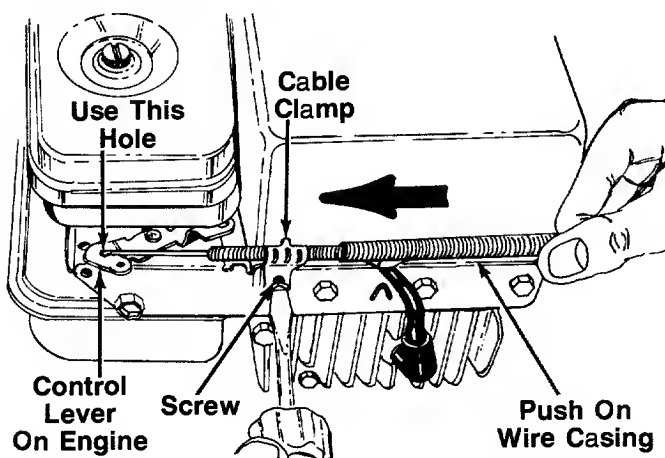

FIGURE 5.—Briggs and Stratton Engine
2. The throttle control cable is attached to the upper handle. Route the throttle control cable under the lower handle and inside the handle mounting bracket. Hook the "Z" end of the throttle control cable into the arm on the control lever on the engine which has two holes, using the **outside** hole as shown in figure 5.
3. Using a 5/16" wrench or nutdriver, remove the screw on the cable clamp shown in figure 5. Slip the control casing under the clamp. Replace the screw, but do not tighten (cable must still move freely beneath the clamp).
4. Place the throttle control lever on the engine in the full open position by pushing it toward outside of the unit. Push the wire casing on the throttle control cable toward the control lever on the engine as shown in figure 5 as you tighten the screw on the cable clamp.